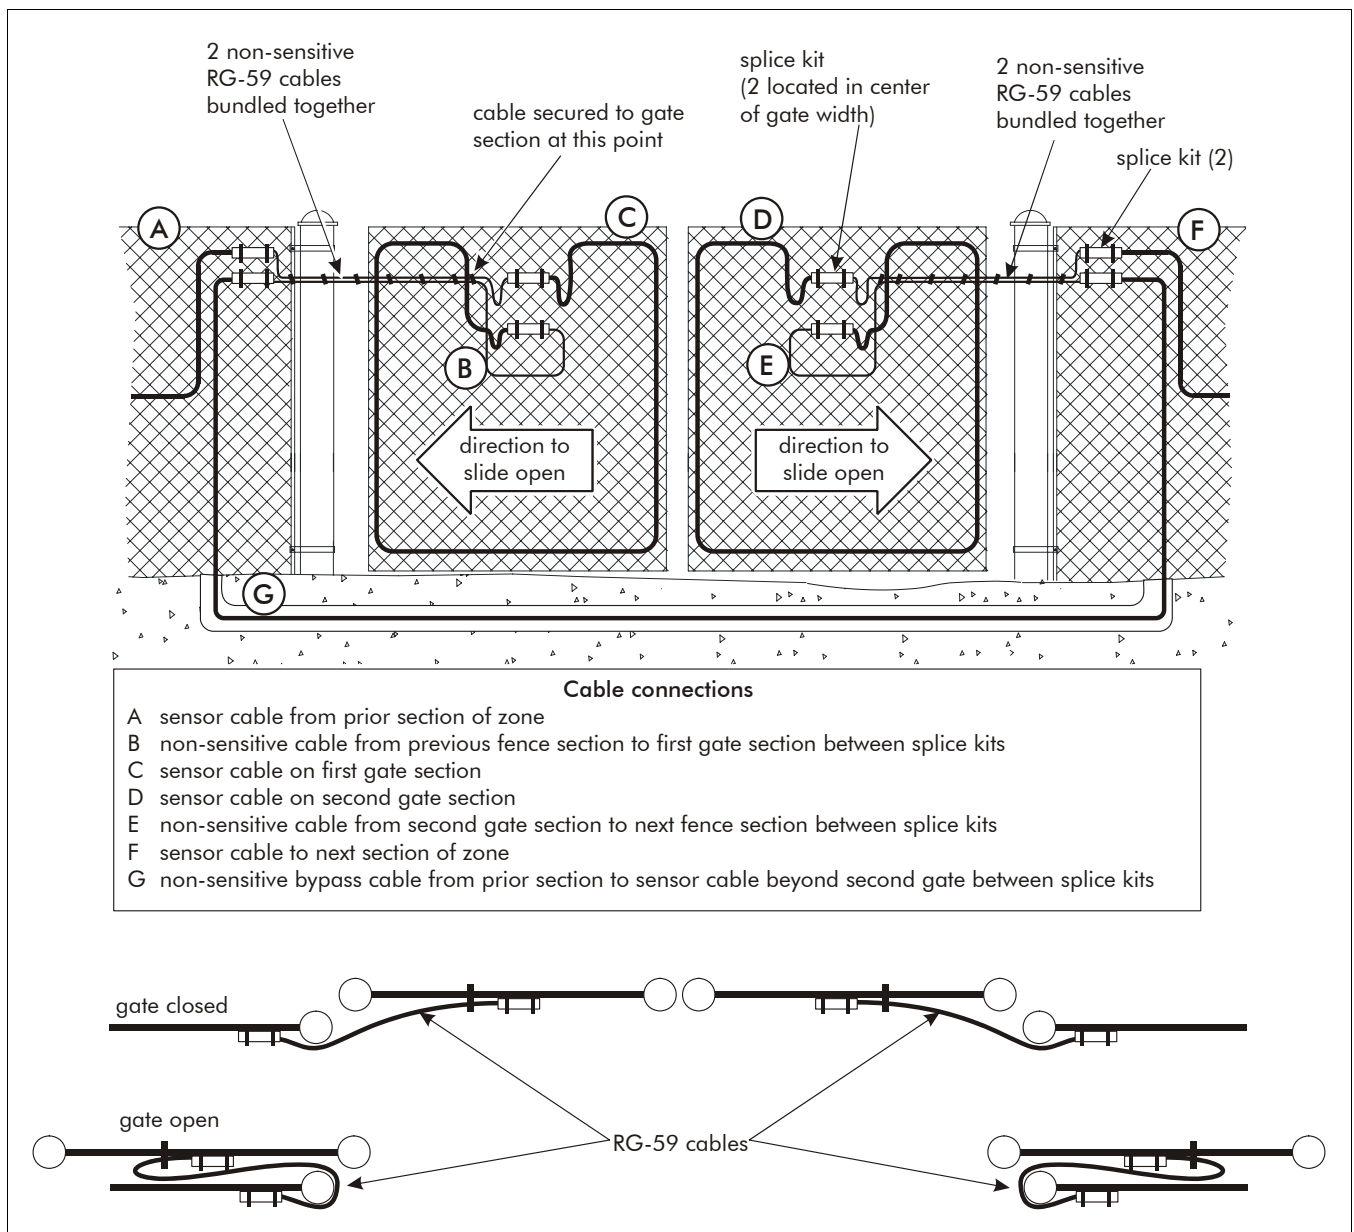

Figure 5-20 Double sliding gate on inside of perimeter
3. Using cable ties, bundle two RG-59 cables together and secure the bundle to one gate at the location indicated in Figure 5-20.